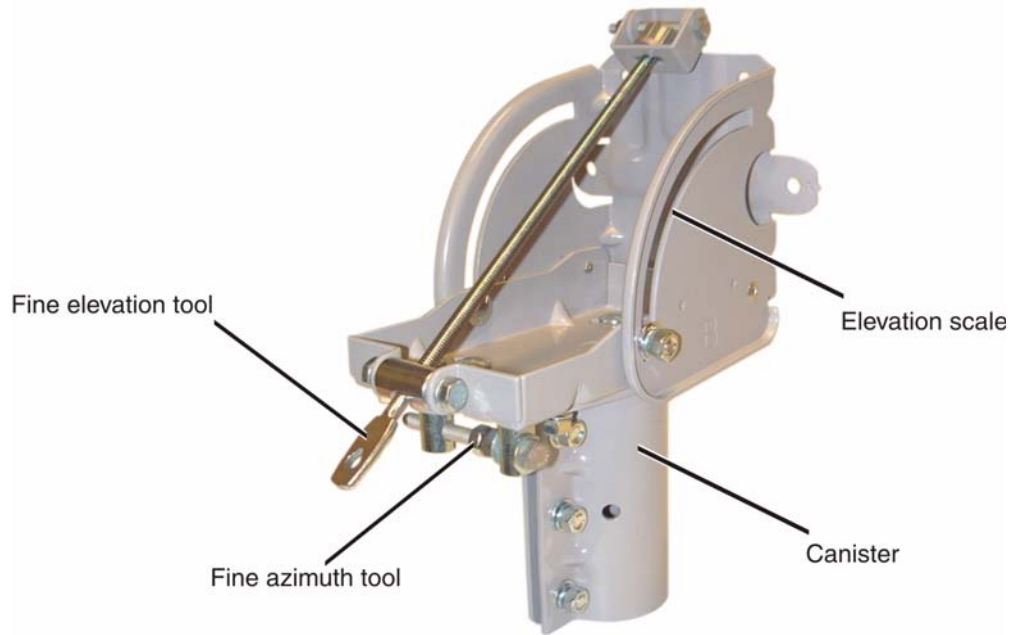

Figure 3: Az/El mount assembly
**Az/El mount assembly** The *Az/El mount assembly*, shown in Figure 3, consists of the Az/El canister, the elevation scale, and the fine azimuth and fine elevation tools. The Az/El canister supports the antenna. The fine azimuth and elevation tools are used to finely adjust the azimuth and elevation of the reflector during antenna pointing. The elevation scale is used to measure the antenna's elevation during the pointing phase.